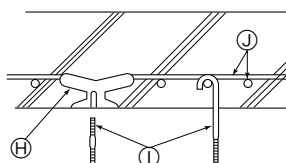

Fig. 2-5
#### ② Ferro-concrete structures (Fig. 2-5)